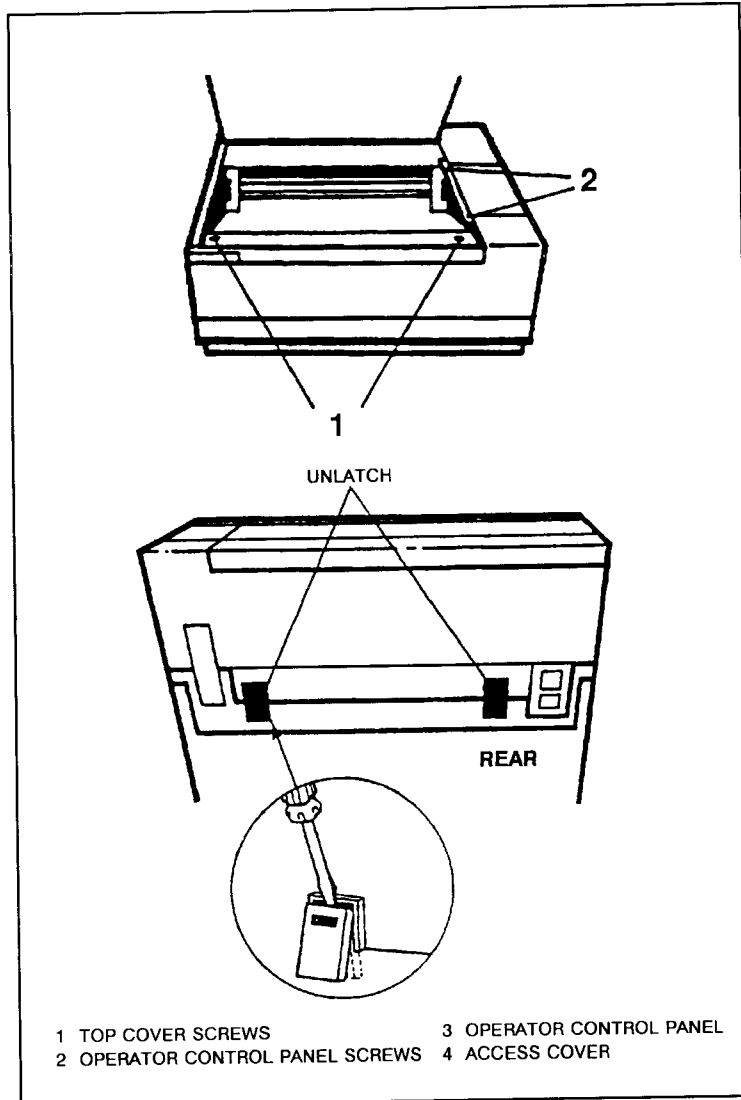

Figure 6-3. HP 2564B/C Top Cover
- d. A ribbon cable connects the printer's control panel to the top cover. Remove the control panel from the top cover by loosening the two pozidrive screws securing panel to the cover (see Figure 6-3, item 2). Slide the control panel toward the center of the printer approximately one-half inch to separate the control panel from the top cover.
- e. Using a flat blade screwdriver, unlatch the two top cover latches securing the top cover at the rear of the printer. On printers with a grey locking tab, push the grey tab up while prying downward and out on the top of the black part of the latch to release (see Figure 6-3).